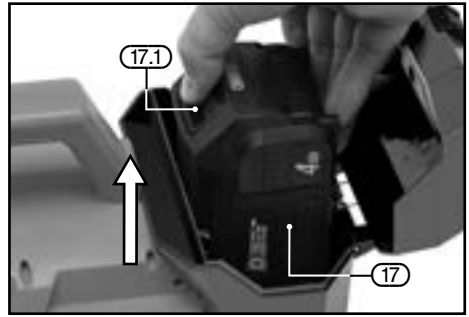

FIG.5
### 9.1 BATTERY PACK CHARGING – FIGS. 5 – 6
- Press the battery release button (17.1) and gently slide the battery pack off (Fig.5).
- Plug the battery charger (18) unit into a 230V/AC 13amp three pin supply socket.